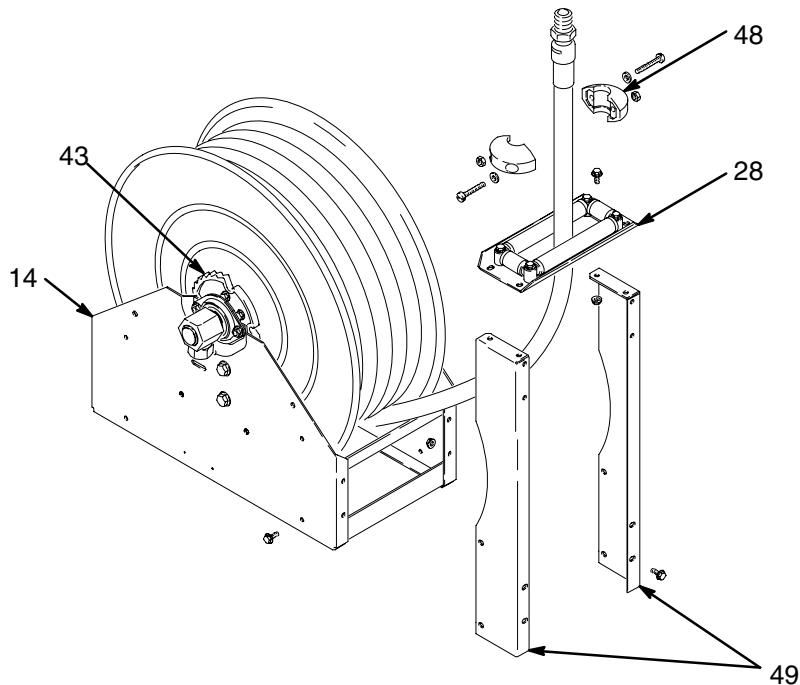

Fig. 2
To install the accessory roller support arm, follow these steps (see Fig 2):
3. Remove the roller plate from the hose reel base (14), and install the roller support arms (49).
4. Reattach the roller plate to the roller support arms, as shown in Fig. 2.
5. Reroute the hose through the hose rollers, as shown in Fig. 2.
6. Install the hose stop (48) and dispensing valve (not shown).